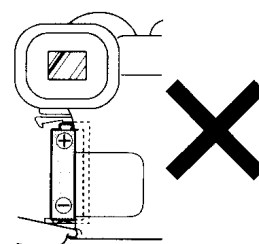

Fig. 2
- 2** Install the batteries as illustrated. First place the (-) side against the bottom terminal, then push the (+) side in gently, until it fits against the top terminal. When the batteries are correctly installed (figure 1), they will be slightly inclined. Do not forcibly push the batteries completely in as indicated by figure 2. The contact is lost and the power cannot be turned on.